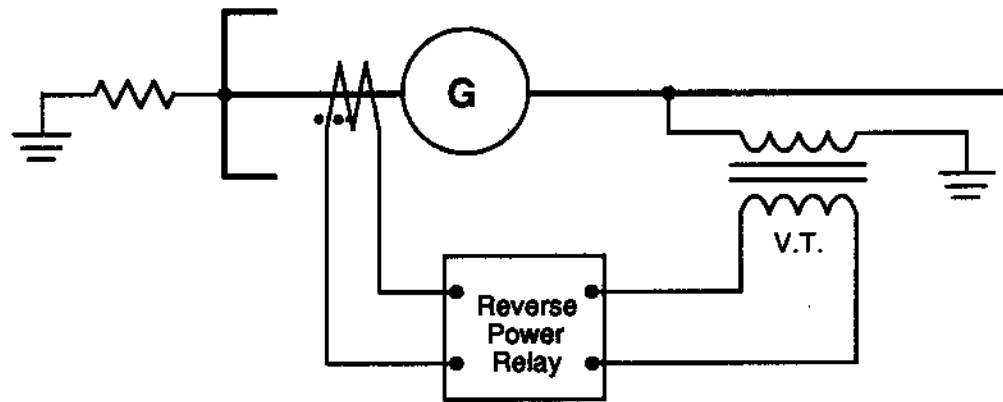

Figure 7.5: Generator Reverse Power Protection
A means of indicating when the transition from exporter to importer of power occurs is provided by a device known as a reverse power relay. As its name suggests, it is triggered by power flowing in a direction opposite to that which is normally desired. This can be used for generator protection, as is the case with standby generators, or as a permissive alarm/interlock for turbine generator motoring (see Class D trips on page 2). Figure 7.5 shows a typical arrangement of a reverse power protection circuit employing both a CT and a voltage transformer (VT) to power the relay, and hence, protect the generator. The relay will operate when any negative power flow is detected.